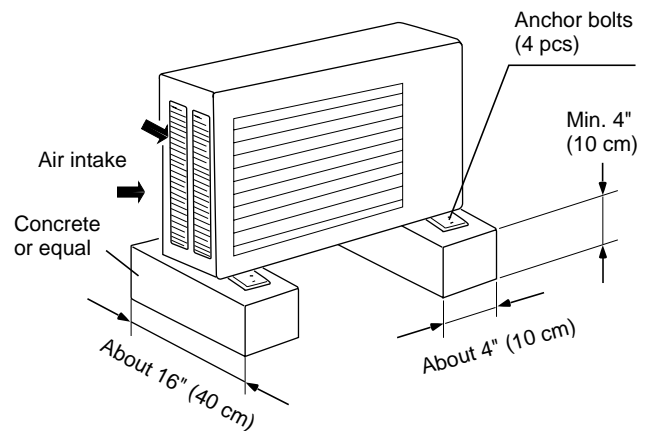

Fig. 2-4
- provide a solid base (level concrete pad, concrete block, 4 in. × 16 in. (10 × 40 cm) beams or equal), a minimum of 4 in. (10 cm) above ground level to reduce humidity and protect the unit against possible water damage and decreased service life (Fig. 2-4).